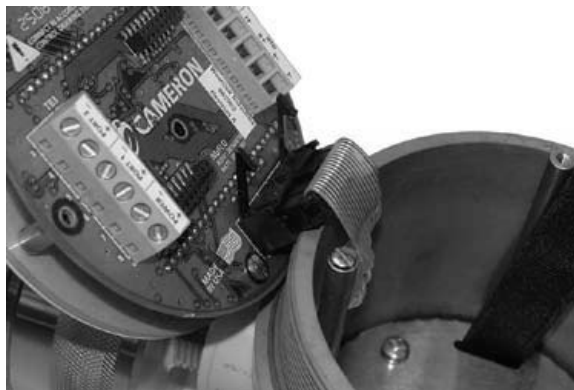

Figure 5.2—Latch securing the ribbon cable
- a. Lift the latch from the black clip securing the ribbon cable (Figure 5.2).
- a. Lift the latch from the black clip securing the ribbon cable (Figure 5.2, page 77).